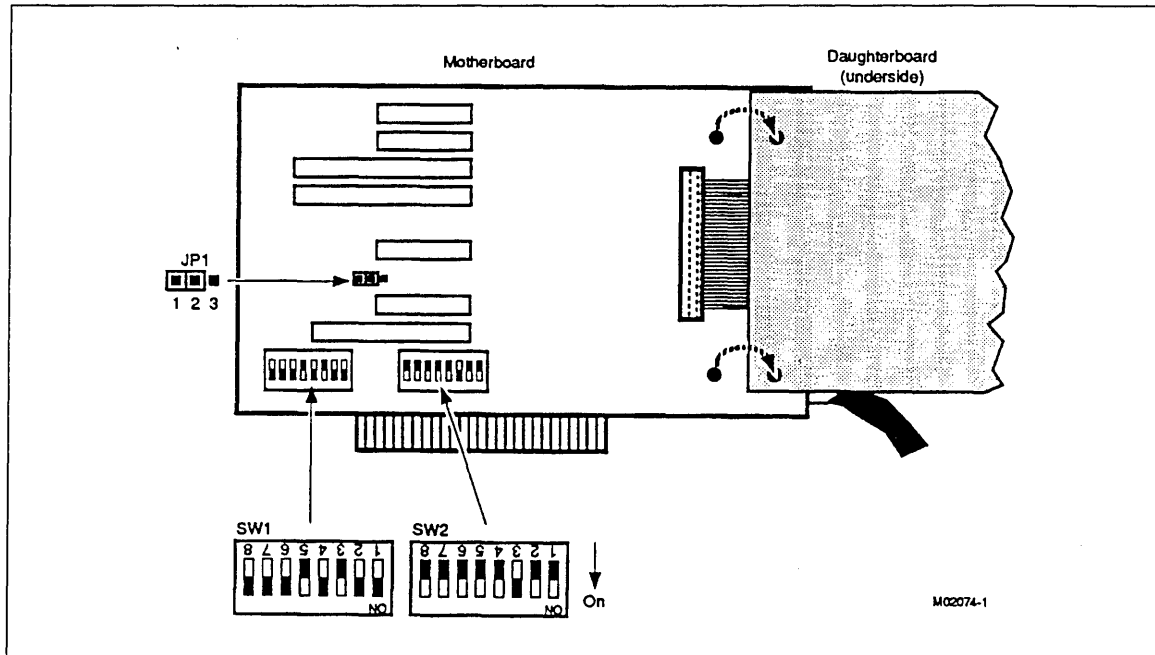

Figure 7-3. Multiport Network Adapter Logic Card Switches and Jumper
- ___ 9. Place the new adapter logic card on the antistatic work pad and set its switches to the same settings as those on the card removed. These settings are as follows (see also figure 7-3).